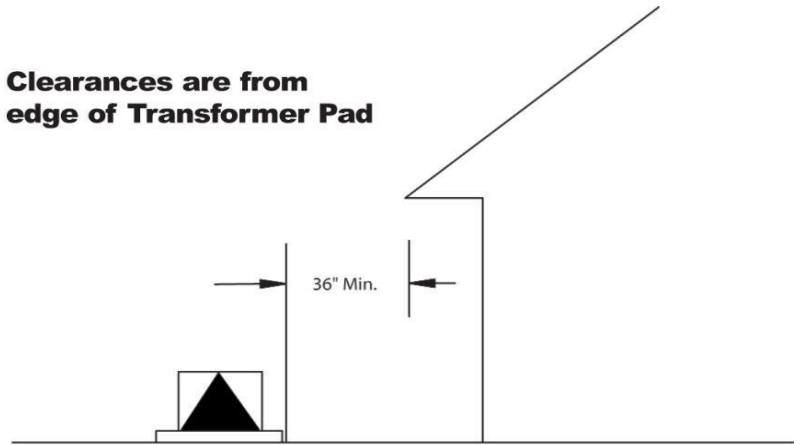

FIGURE 3
1. Determine pad location and orientation (see pages 4 to 6). Pad location must be in accordance with ECE clearance requirements (see Figures 3 to 11).
Pad-mount oil-insulated transformers may be located a minimum distance of 36" from the roof overhang of a non-combustible walled building if all the following clearances are maintained from doors, windows, and other building openings. If a combustible first floor overhang exists, a 10' distance from the edge of the transformer to the edge of the overhang or its associated roof overhang (combination of vertical and horizontal distance) shall be required in addition to the other clearances as shown in Fig. 3.